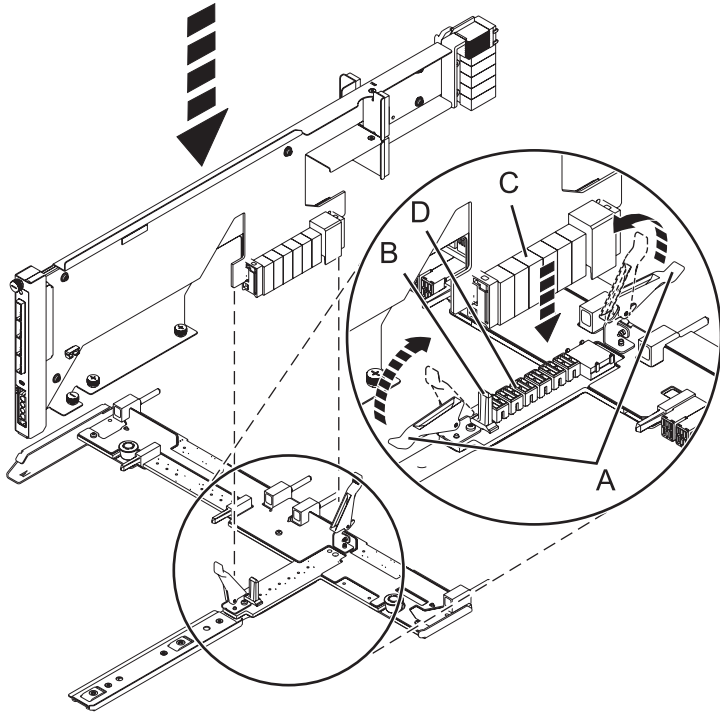

Figure 78. Installing the SAS conduit card into the midplane
- a. Place the card connector (C) on the midplane connection (D) using the guide track (B) to ensure a good connection.
- b. Lift the handle (A) to seat and secure the SAS conduit card to the midplane as shown in Figure 78 on page 95.